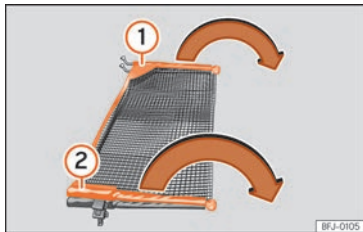

Fig. 151 Deploying the net partition.
Extend the cross rods » **Fig. 151** ① and ② of the net in the direction of the arrows until it "clicks".